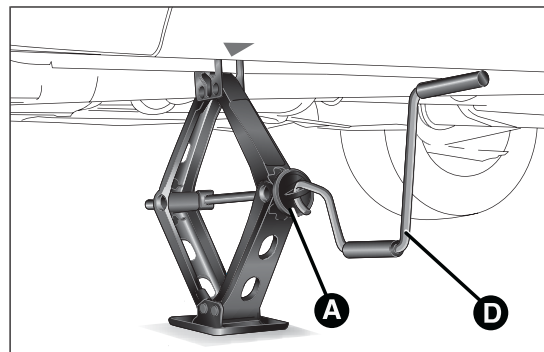
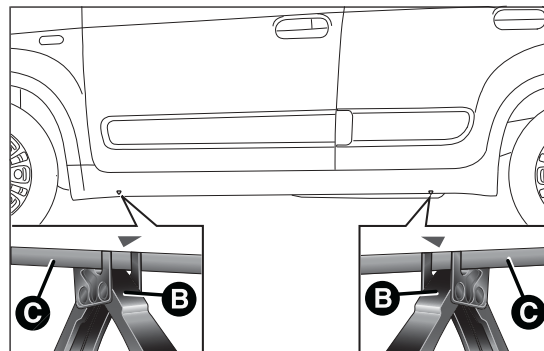

fig. 116
fig. 117
- ❑ operate the device A fig. 116 to extend the jack until the top of the jack B fig. 117 fits correctly into the side member C (next to the mark ▽ on the side member);
- ☐ fit handle D fig. 116 into the housing in device A, operate the jack and raise the car until the wheel is a few centimetres from the ground;